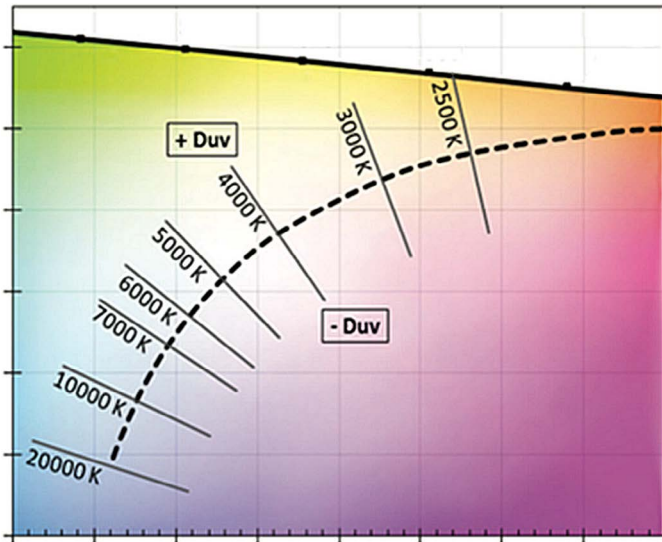

Figure 4: Color space with blackbody line.
The **color temperature** (CT), in its most basic form, tells us something about whether a light source is experienced as warm (reddish white) or cold (blueish white). The origins hereof can be found in incandescent lighting, where a metal filament is being heated to a temperature, and then emits light with a certain color. A filament temperature of 2000 Kelvin will be quite reddish, whereas a temperature of 10,000 Kelvin will be quite blueish. If we were to heat this filament from 2000K all the way to 10,000K and plot all the corresponding emitted colors in a color diagram, we would get a line, called the blackbody line (BBL), as shown in figure 4 (dashed line). Here it is important to realize that all points on this BBL are considered to be white light.
This is exactly the reason why most of our LED flavors are a bit below the BBL: for whiteness optimization! Knowing exactly how far to go below the BBL is where Quality of Light comes in. Going back to figure 4, colors that are not on the BBL but along the lines perpendicular to the BBL are correlating with that particular color temperature (meaning they have the same value); hence the term correlated color temperature. The distance from the BBL is captured by Duv (pronounced delta-u-v): the larger the Duv, the larger the deviation from the BBL and the greater the difference in color - yet at the same color temperature!